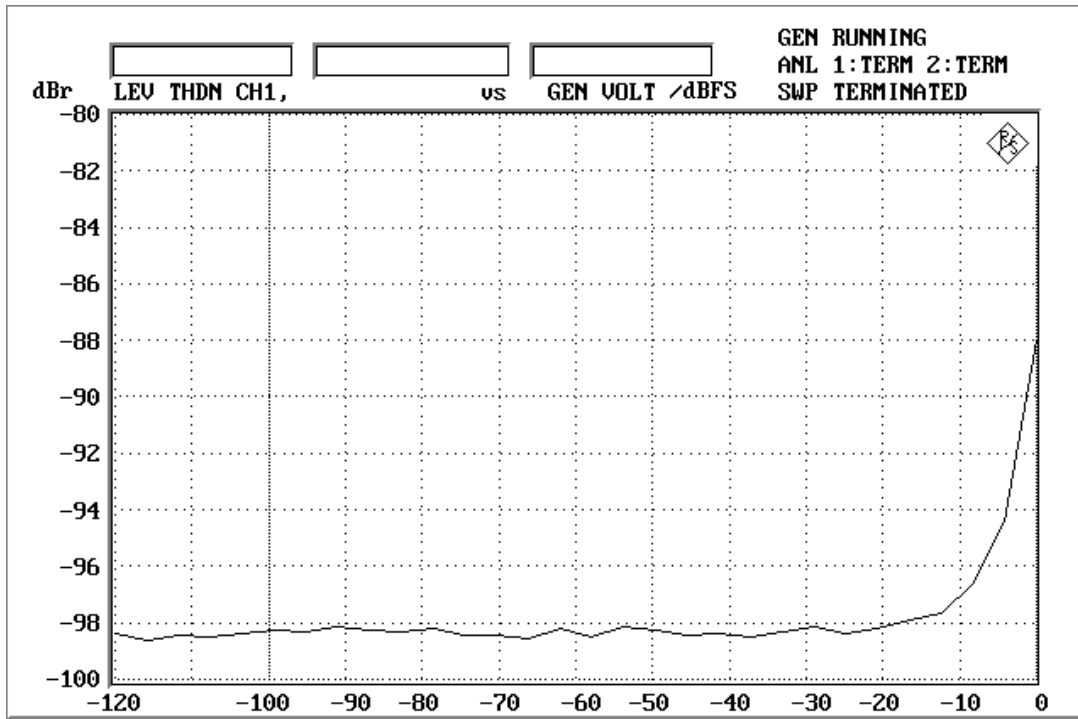

Figure 1-1-1. THD+N vs. Input level
- Figure 1-1-1. THD+N vs. Input level